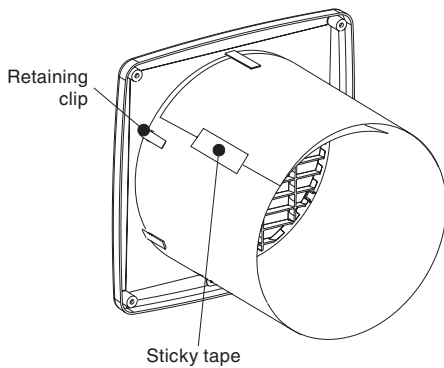

Fig. 7
10. Attach sticky tape to the overlapping point on PVC sheet to help secure the PVC sheet in position (Fig. 7).